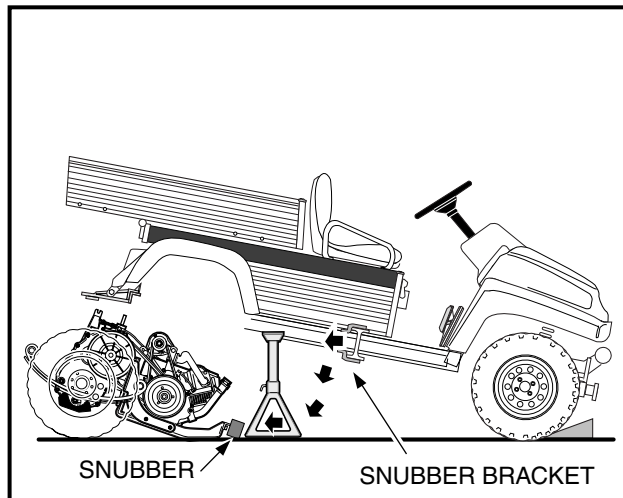

Figure 16-29 Snubber
13. Carefully lift the snubber out of the snubber bracket in the vehicle frame and lower it to the floor (**Figure 16-29, Page 16-14**). The powertrain should be completely disconnected from the vehicle and resting on the floor.